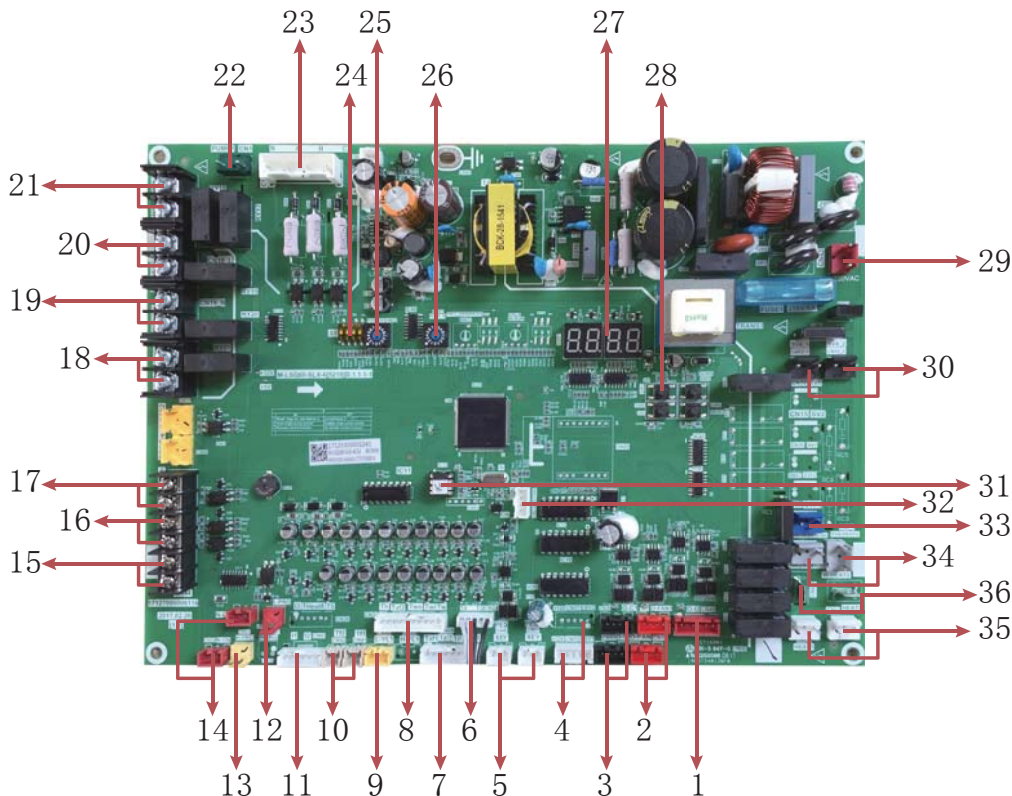

Fig.5-4
5.5.2 Indicating diagram of electric control of main control board (see Fig.5-4)
5.6 Detail description for parts in fig. 5-4